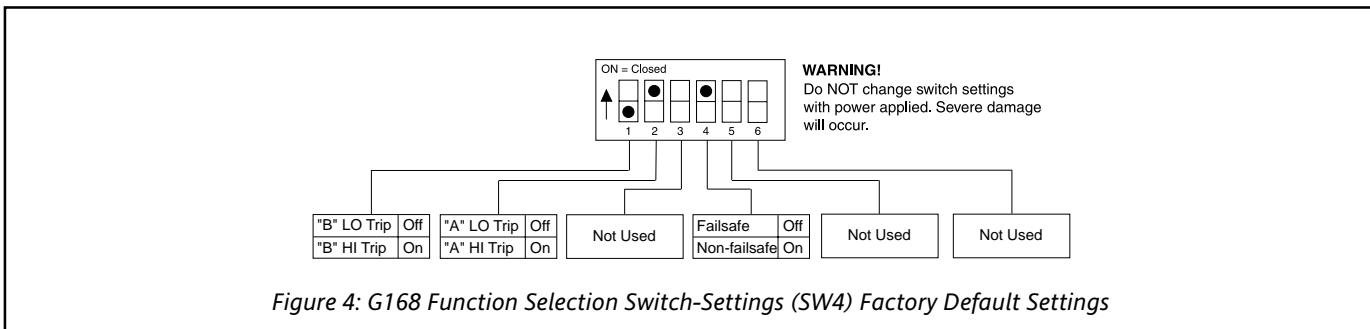

Figure 4: G168 Function Selection Switch-Settings (SW4) Factory Default Settings
For other I/O ranges, refer to Table 1 and Figure 4 to reconfigure switches SW1 and SW2 for the desired input type, range and function.
3. Set position 1 and 2 of "SW2" to ON for a HI trip setpoint or OFF for a LO trip (see Figure 4).